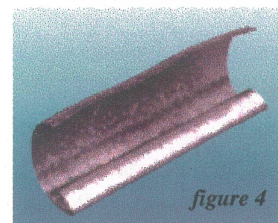

figure 4
3. Fold the fibers and acrylic inside the tin foil (*Fibers* will turn almost transparent when properly wetted). See figure 4 A special plasticized tin foil is available from PREAT.